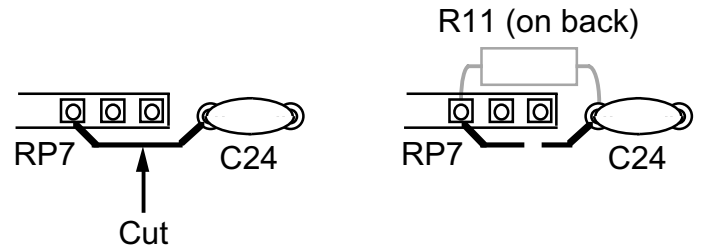

Figure 6
- Locate capacitor C24 (.0027 μF), which is on the right side of the Control board between RP7 and RP3. As shown in Figure 6, cut the trace on the top side of the board between C24 and pin 6 of RP7. On the bottom side of the board, solder a 47 k resistor (yellow-violet-orange) between these two pads. (Reduces digital switching noise in the sidetone; designated R11 on the Rev. B Control board.)